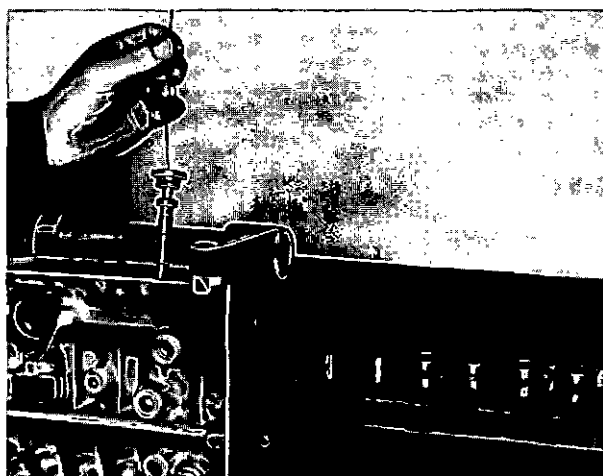
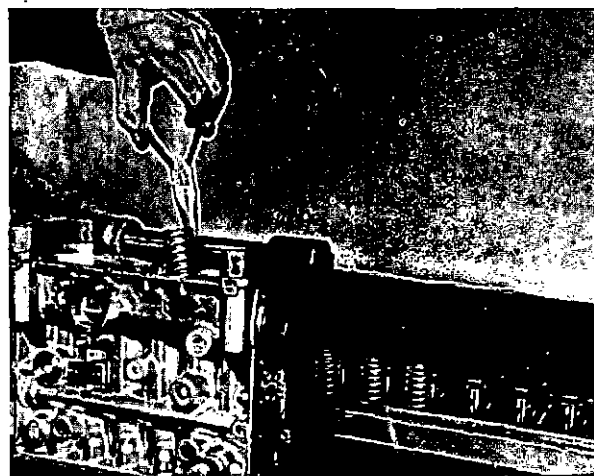
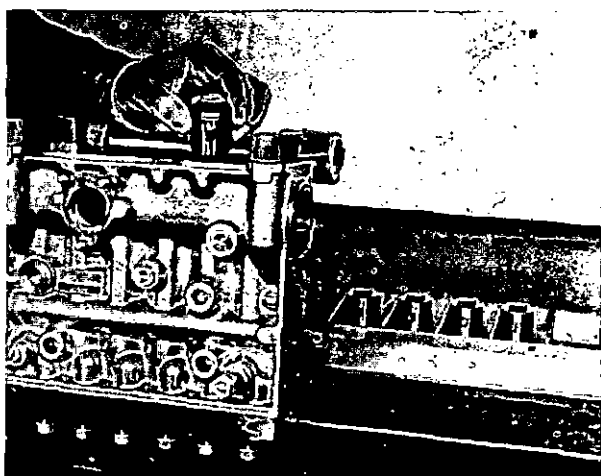

Fig. 10 Withdrawing plunger and lower spring plate.
Fig. 11 Extracting plunger springs.
Fig. 9 Removing tappets.
11. Withdraw the roller tappets (fig. 9), use a wire hook to lift out the spring plate and pump plungers (fig. 10) and take out the plunger springs (fig. 11). Place each assembly in the appropriate compartment of its storage tray.